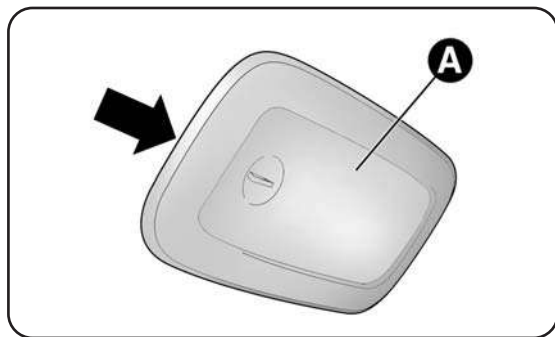

fig. 28
- work at the point shown by the arrow and remove roof light A - fig. 28;